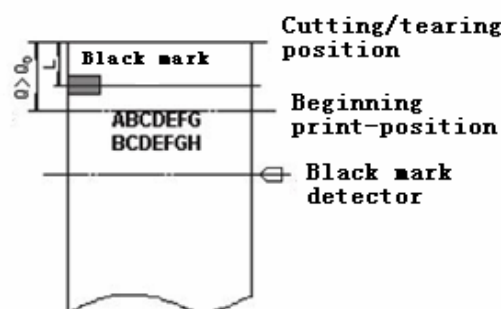

Figure 7-5
3. When the tearing/cutting position offset is not zero, or the distance Q of the tearing/cutting position offset from the beginning print-position is greater than the inherent mechanical value Q_0 of the printer (shown as figure 7-5), the calculation of the beginning print-position offset by “GS (F” command is shown as follows: